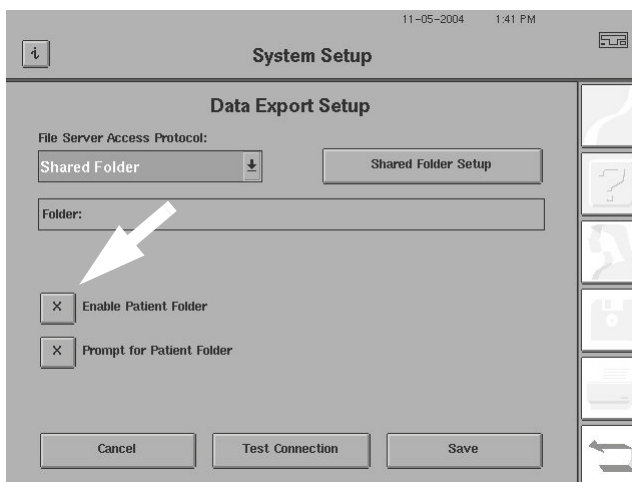

Figure I.15 Data Export Setup Screen
- 1** Select MAIN MENU>SYSTEM SETUP>COMMUNICATIONS SETUP>DATA EXPORT SETUP. When the screen shown in Figure I.15 appears, touch the ENABLE PATIENT FOLDER button, to select it. An X will appear in the button once you have selected it. This activates the patient folder capabilities of your HFA II-*i* and to automatically create patient folders.
- 2 If you wish for the HFA II-/to prompt you to specify a new folder each time you conduct testing of a patient, select the PROMPT FOR PATIENT FOLDER button (Figure I.15). An X will appear in the button once you have selected it. Once this feature is activated, the HFA II-/will prompt you to enter a folder name upon completion of each visual field examination.